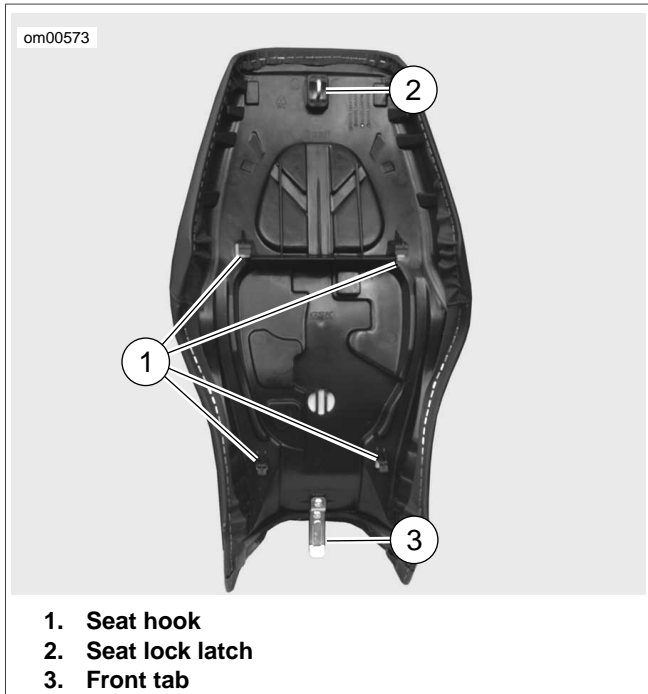

Figure 2-199. Seat Tab/Hooks: Ulysses Models
1. See Figure 2-199. Position and slide seat forward on motorcycle to engage front tab (3) with slot in frame and engage all four seat hooks (1) with posts on tail section.